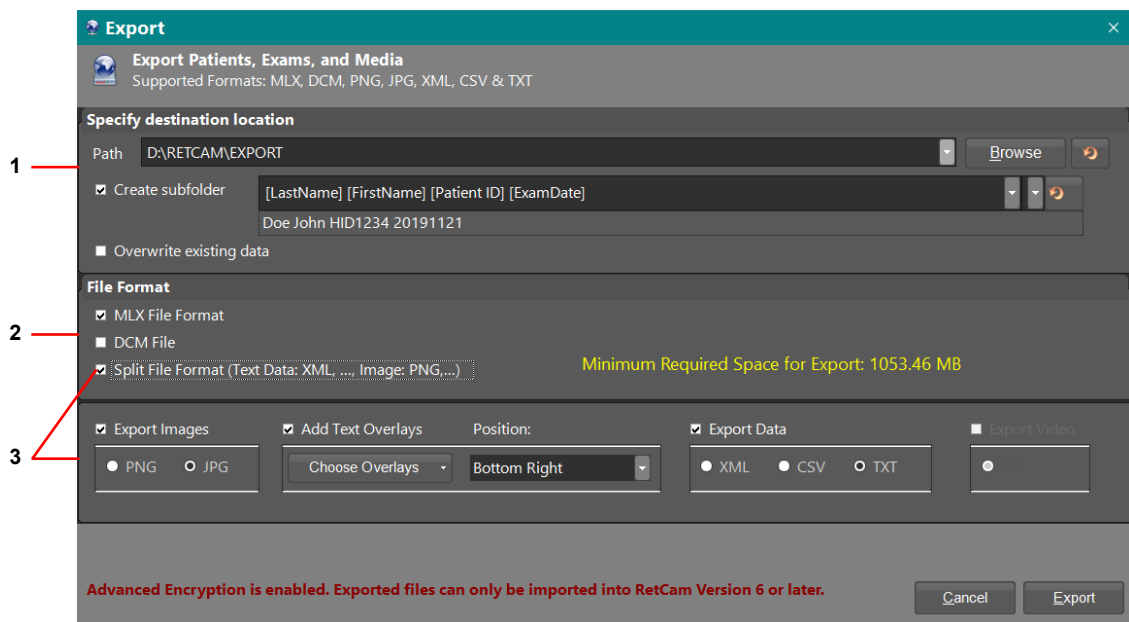

Figure 29. Export Dialog
- Select the appropriate options in the Export dialog (Figure 29).
3. In the confirmation dialog, click **Yes**. Select the appropriate options in the Import Review dialog (Figure 29).